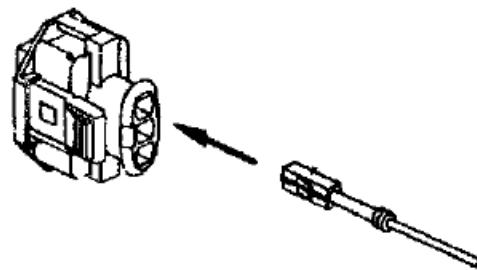

Figure 89
- (1) Orient contact as shown in Figure 89, then insert contact into connector body and push until an audible 'click' is heard.